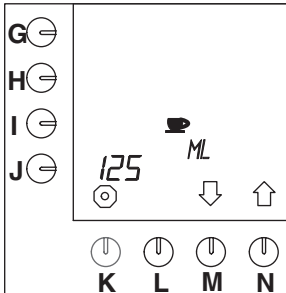

Fig. 24 Cup contents
- Press selection key (N.)↑ until fig.24 appears on the display.